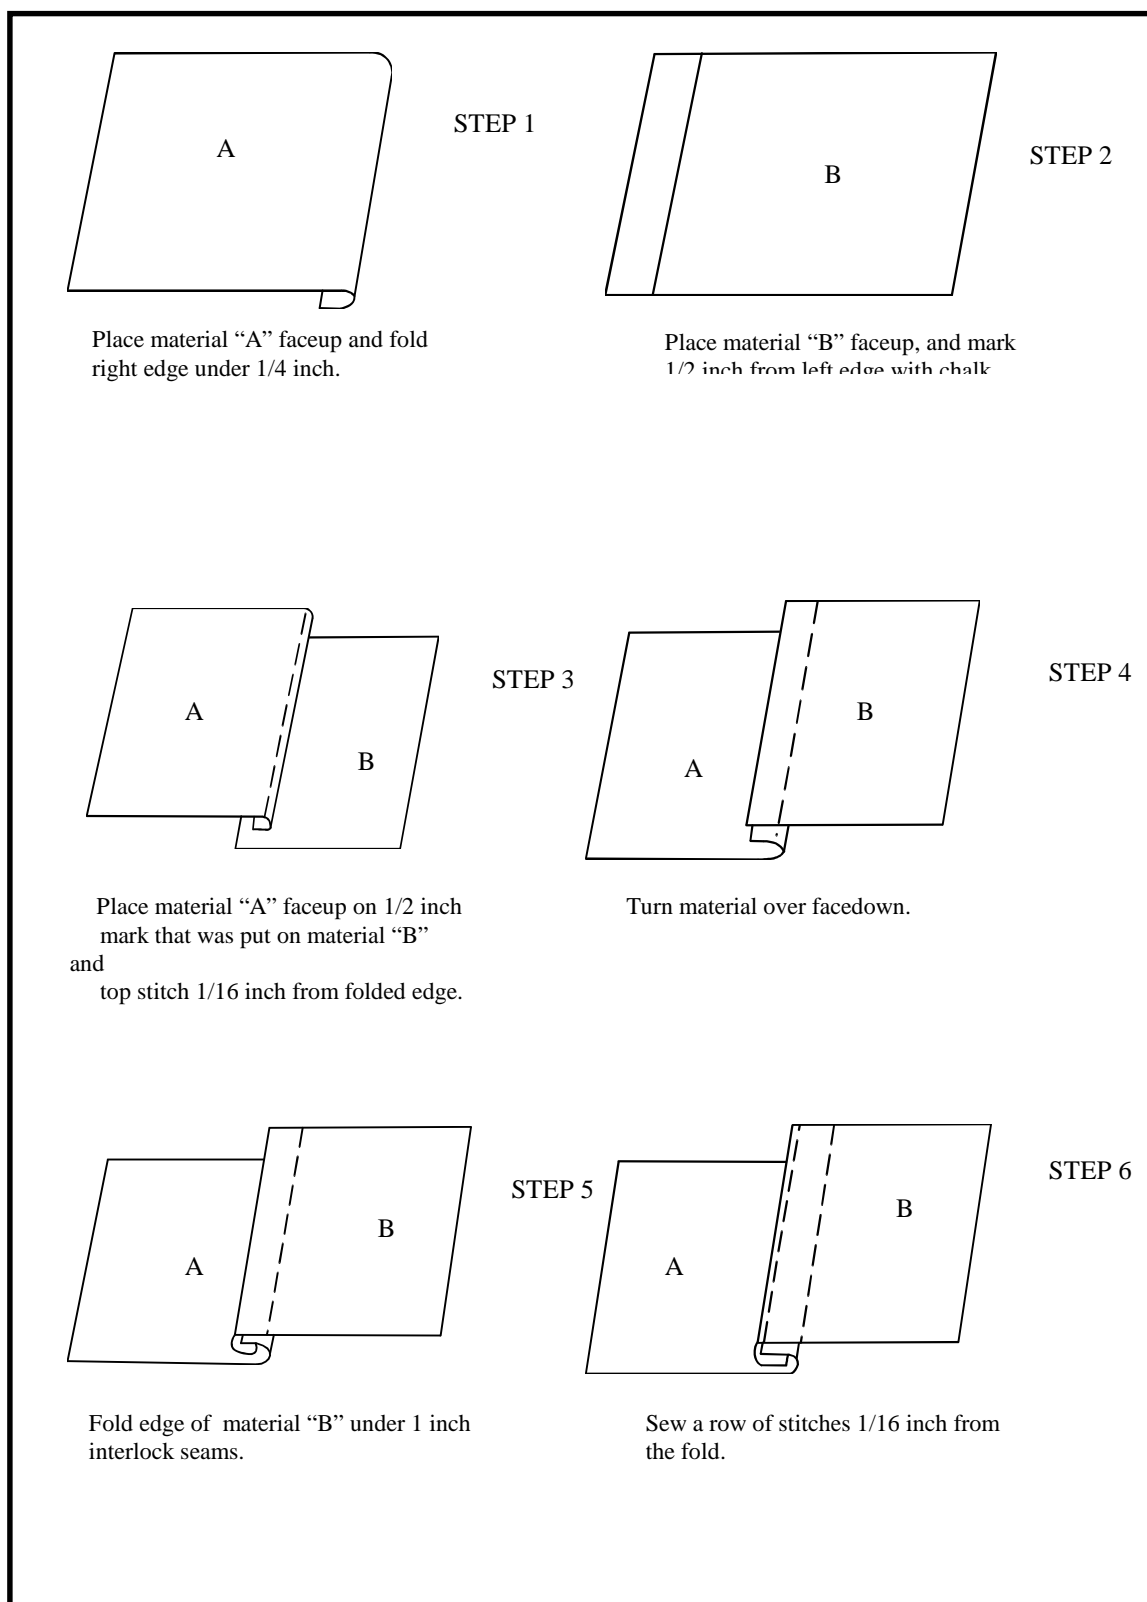

Figure 3-12. Seam type 4
e. Seam Type 4. Seam type 4 (Figure 3-12) is a double-lapped seam. It is an extremely strong seam, because no raw edges are left exposed to unravel and two rows of stitches are used. This seam is used in garments that get a great deal of stress and are washed often. It is used to join the fronts and backs of shirts and field uniforms. When the seam is sewn correctly, it looks the same on the inside and the outside of the garment. To make seam type 4--
- (1) Cut an 8- by 8-inch piece of material into two pieces 4 inches by 8 inches.
- (2) Place the two pieces of the material faceup and side by side.
- (3) Mark the piece of the material on the left, 1/4 inch from the right edge (8- inch length).
(4) Mark the piece of the material on the right, 1/2 inch from the left edge (8-inch length).
(5) Fold the material on the left 1/4-inch mark and place it on the 1/2-inch mark of material on the right.
(6) Sew a row of stitches 1/16 inch from the folded edge of the top material. Make certain to tack both ends of the seam.
(7) Turn the joined materials over with the back side of the material up.
(8) Mark 1/4 inch from the raw edge of the joined seam.
(9) Fold under 1/4 inch at mark and stitch 1/16 inch from the folded edge across the length of the material.
(10) Tack at both ends of the seam with a 1-inch tack (no less than 7/8 inches, or no more than 1 1/8 inches).